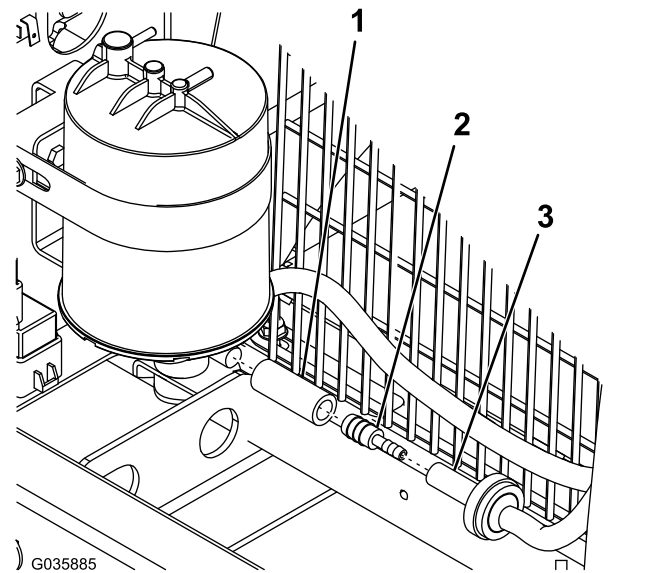

Figure 7
- Attach the hose adapter and short hose to the inline fuel filter and secure it to the bottom of the carbon canister (Figure 7).